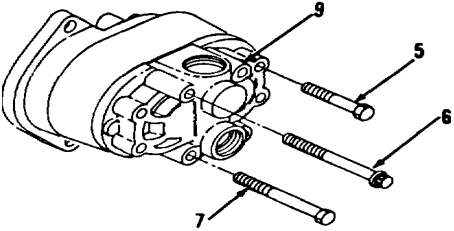

Figure 10-13.
- 4. Remove four bolts (5) and two bolts (6 and 7) from back plate (9, Figure 10-13).